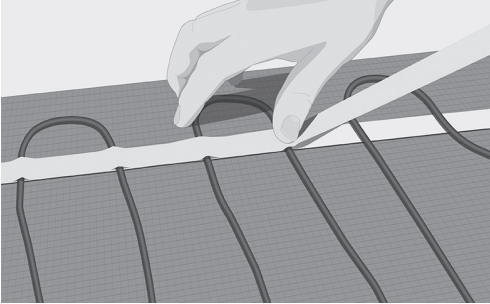

Fig. 11. Lock the cable in with masking tape
10. Secure the cable with masking tape on top of cable and double-sided tape. Press the tape thoroughly onto the cable to prevent air pockets from forming during the embedding procedure (Fig. 11).